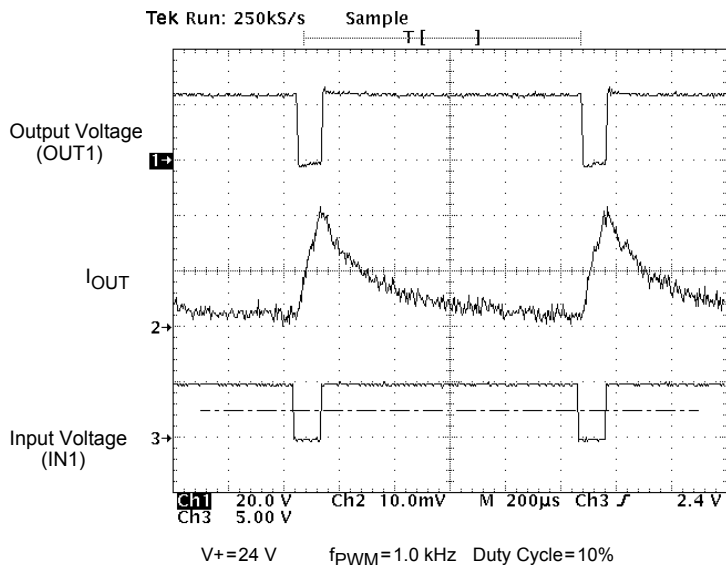

Figure 12. Output Voltage and Current vs. Input Voltage at $V+ = 24 \text{ V}$, PWM Frequency of 1.0 kHz, and Duty Cycle of 10%
- 24 The outputs can be PWM-controlled from an external source. This is typically done by holding one input high while applying a PWM pulse train to the other input. The maximum PWM frequency obtainable is a compromise between switching losses and switching frequency. See Typical Switching Waveforms, Figures 12 through 19, pp. 14–17.